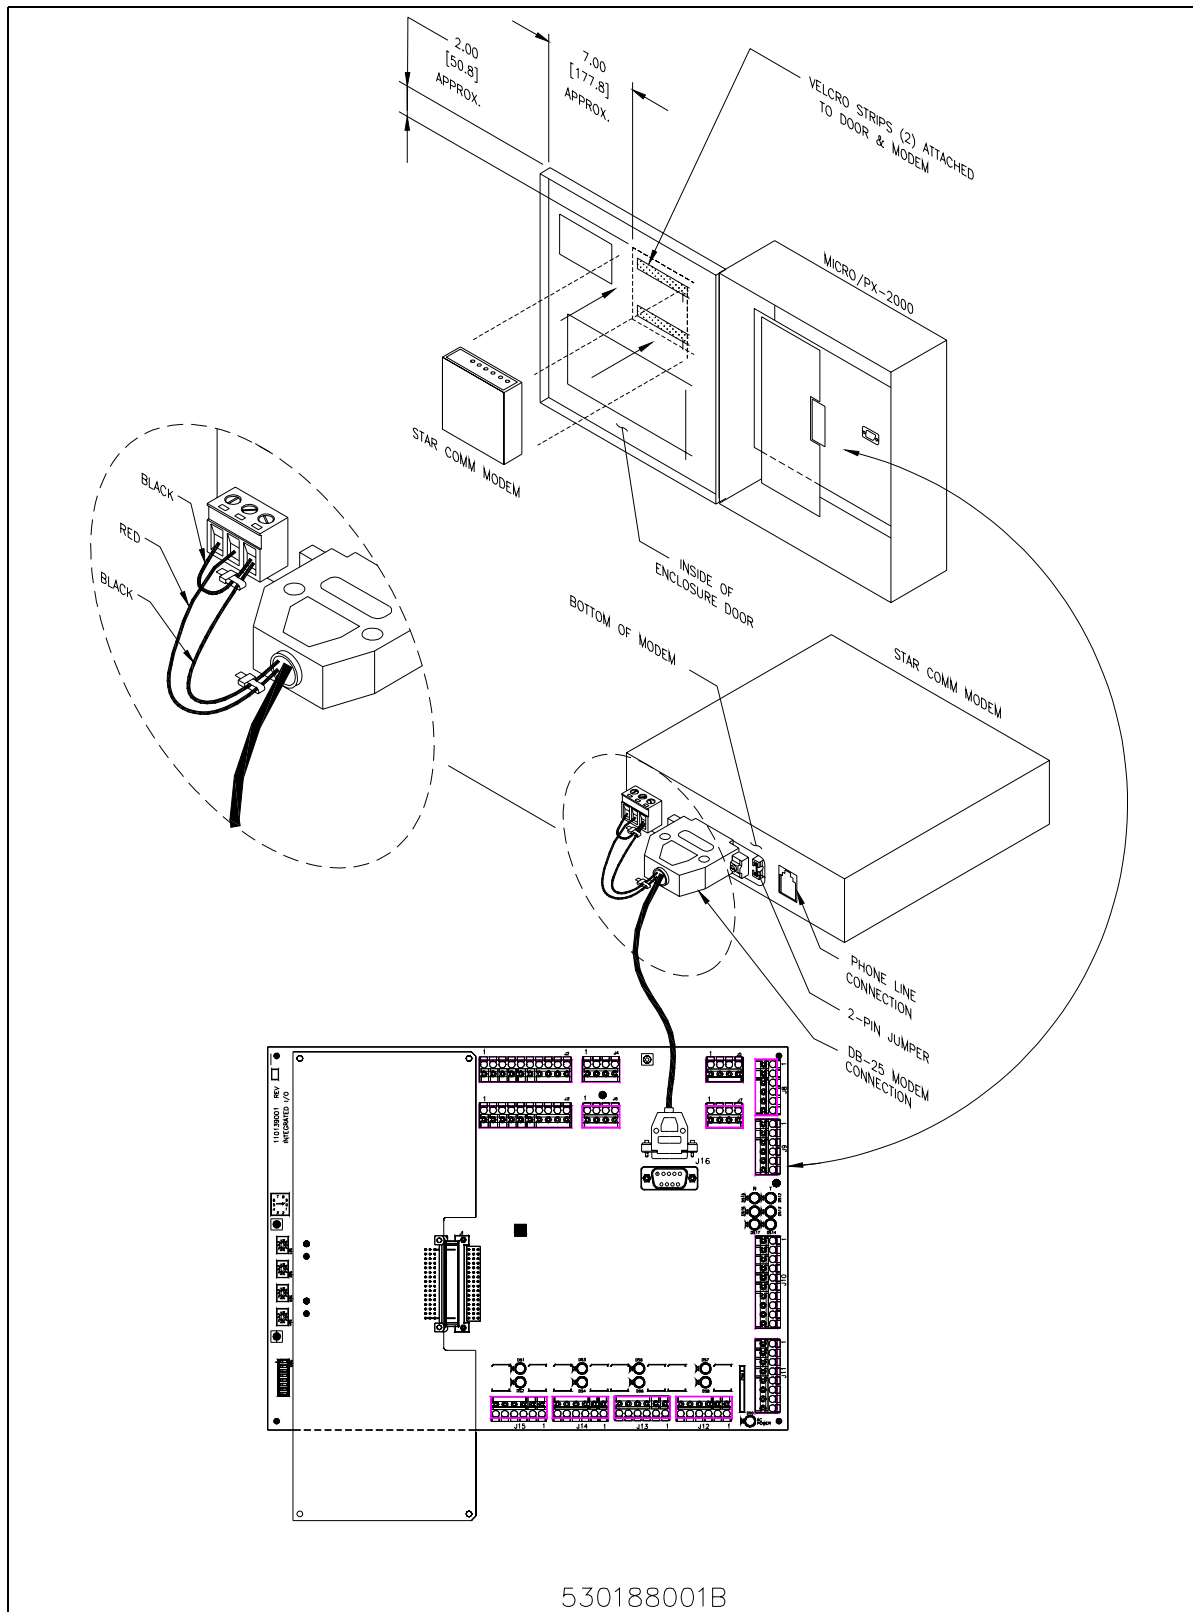

Figure 1: Modem Connection Overview
Review Figure 1 on page 3 before you begin.
5. Position the modem box in the corner, inside door of the Micro/PX-2000 as shown in Figure 1 on page 3.